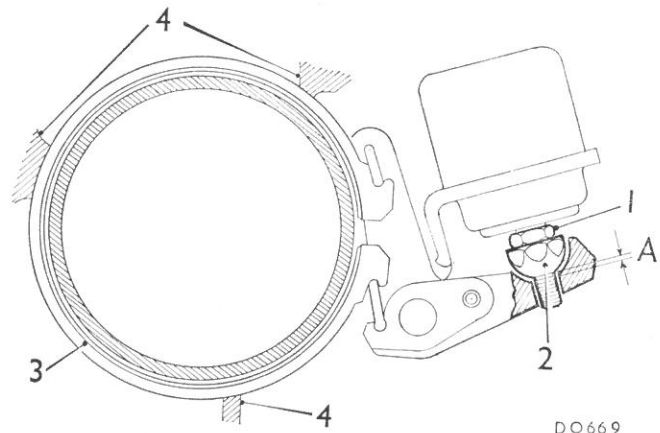

Fig. Fa.23
- (42) Screw the gear change selector rod fully into the valve block linkage. Check and reset if necessary the gear-change rod adjustment (see Section Fa.2).
- (43) Adjust the second, third and reverse servos (see Fig. Fa.23). Slacken the locknut (1) and the spherical adjuster (2) until each brake band (3) is in contact with the transmission casing stops (4). Adjust each adjuster (2) until the clearance 'A' is obtained, and tighten the locking nut (1).
- (44) Fit a new seal to the front cover bobbin, and refit the cover using a new joint washer.
- (45) Refit the main oil strainer and pick-up pipe using new seals (if these items were removed), see item (2a).
- (46) Refit the differential assembly as detailed in Section Fa.9.
- (47) Refit the engine to the transmission as detailed in Section Aa.4 (if removed see item (2a)).
- (48) Refit the converter and components removed in item (2b).
- (49) Refit the engine/transmission unit to the car as detailed in Section Aa.3.